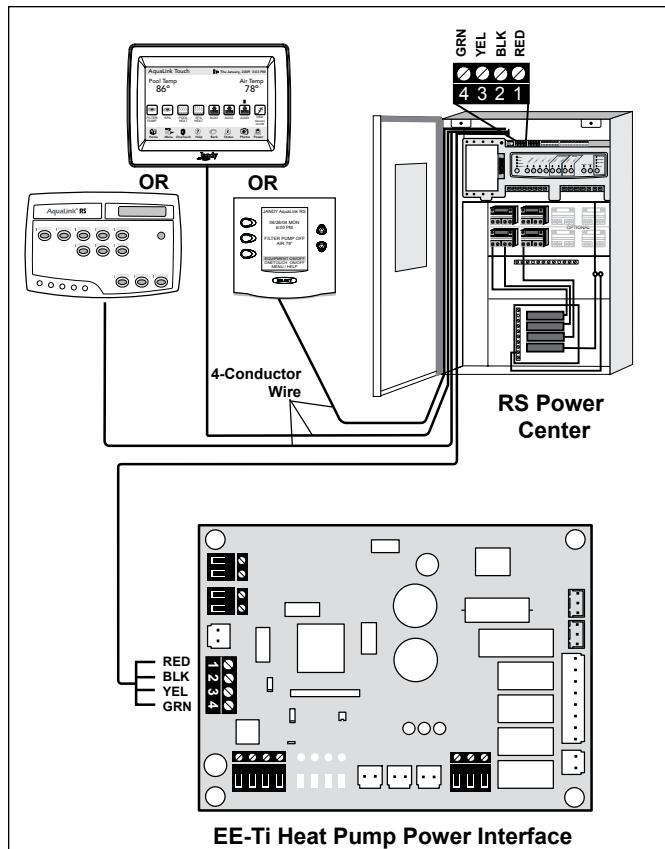

Figure 14. EE-Ti Heat Pump Connection to Power Center
1. Confirm the EE-Ti heat pump and AquaLink RS software revisions are compatible (see Figure 14).
3. Remove the two (2) screws holding the bezel in place and turn the bezel over to view the circuit board on the back.
6. The wires coming from the EE-Ti heat pump can be "doubled up" on the red terminal bar with the four (4) wires coming from the indoor controller.
**NOTE** If you need to install more than two (2) wires in each terminal, order a Zodiac Multiplex PCB Kit,